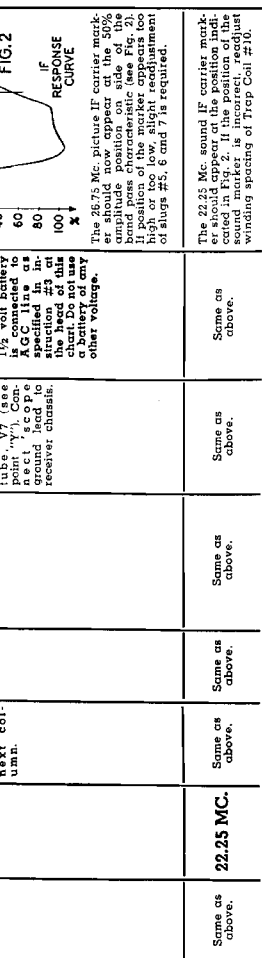

FIG. 2
1. IMPORTANT: Before underdriving oscillator alignment be sure IF circuits are correctly aligned for band pass characteristic illustrated in Fig. 2.